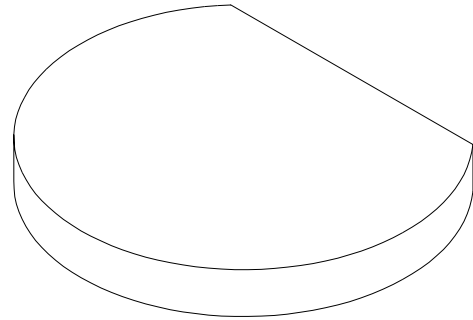

Figure 27-61 Base of the model
3. Choose **Views > Views > SW Isometric** from the **Ribbon**. The model should look similar to the one given in Figure 27-61.